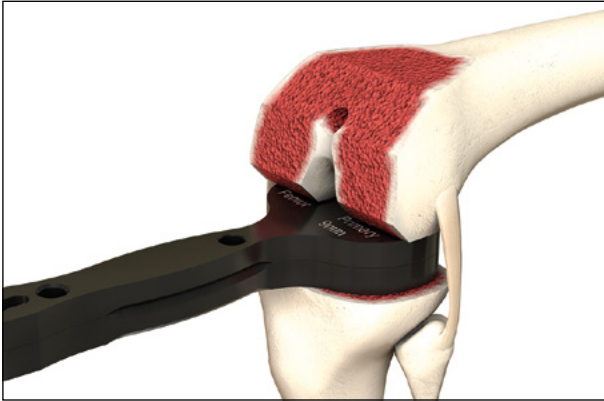

Fig. 32 Inspection of the flexion gap
- Insertion of the Spacer Block into the flexion gap with the Spacer Block Insert, previously defined in extension (Fig. 32)